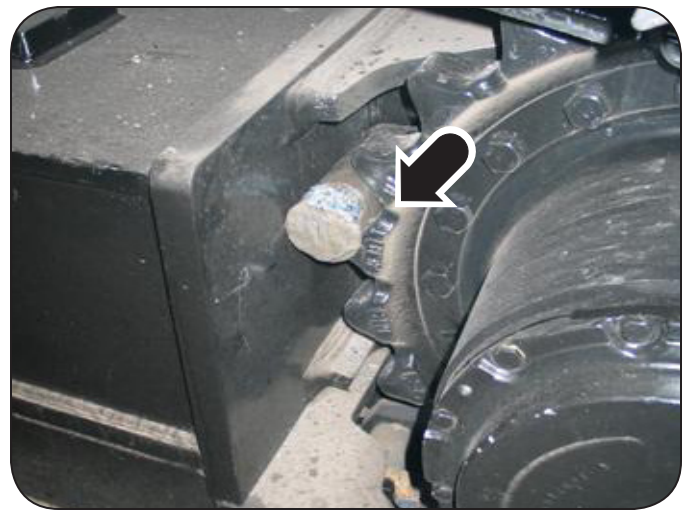

Figure 17: Lock Pin in Sprocket
3. Insert 2 1/2" pin stock in left and right track sprocket. See Figure 17. This will prevent the machine from moving..